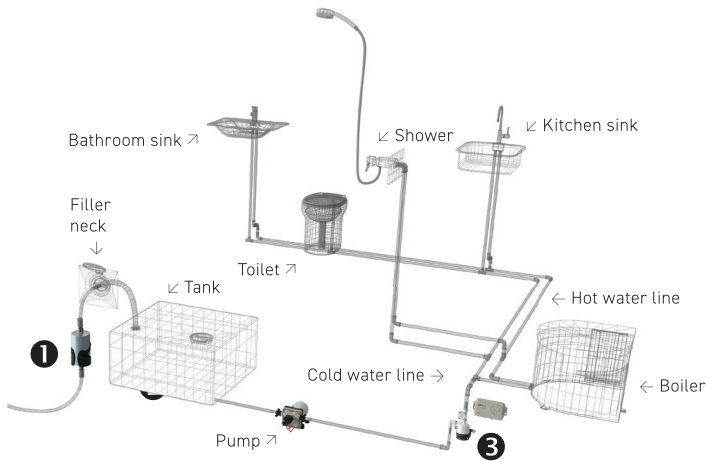

Figure 1: Installation Recommendation in a Mobile Freshwater System
How these risks can be excluded is shown in Figure 1, a practical example of how a freshwater system can be operated holistically hygienically. As a first step, we recommend pre-filtration ① (herer: WM Filter), as well as preservation of the water (here: Silvernet Flex) ②. The preservation extends over the entire freshwater system and reduces re-contamination or additional contamination of the water during storage. Then the water passes through the UV unit and is freshly disinfected at the point of water withdrawal ③.